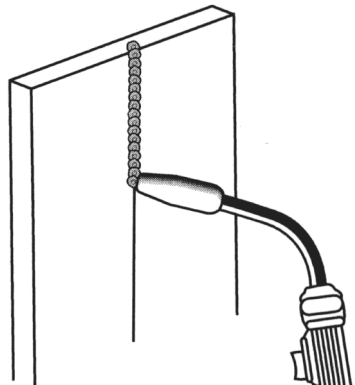

Figure 16. Vertical Position
3. The **VERTICAL POSITION** (Figure 16) is the next most difficult position. Pulling the torch from top to bottom may be easier for many people, but in some instances it can be difficult to prevent the puddle from running downward. Pushing the torch from bottom to top may provide better puddle control and allow slower rates of travel speed to achieve deeper penetration. When vertical welding, angle B (see **HOLDING THE TORCH** - p.15) is usually always kept at zero, but angle A will generally range from 45 to 60 degrees to provide better puddle control.